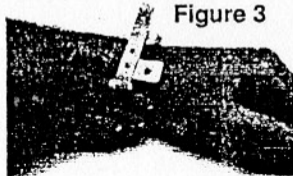

Figure 3
- 3) Slip the tips of two fingers between the resident's wrist and the band to gauge for proper fit, Fig. 3. Connect the band onto the rivet as shown.